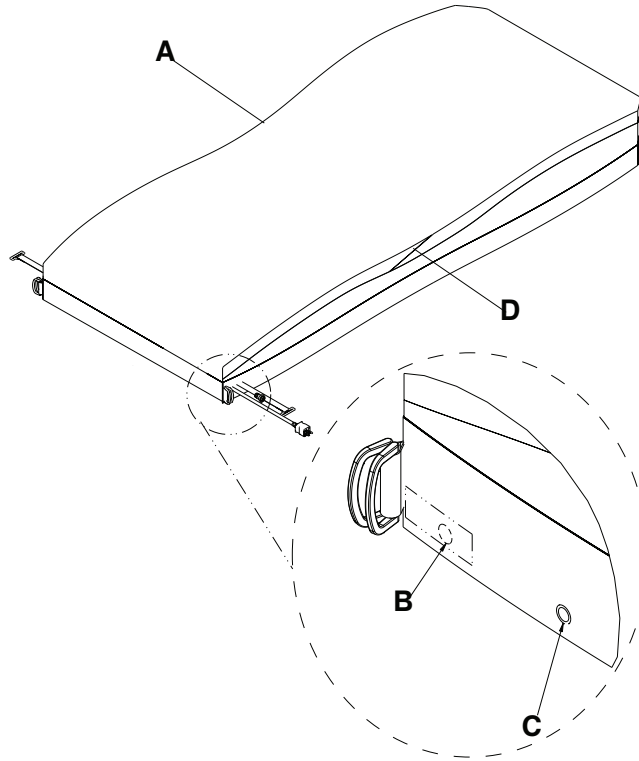

Figure 9 – Top cover
5. Unsnap the two secure snaps (C) at the foot end corners (Figure 9).
6. Unsnap the two foot end corner retainers (B).
8. Using the zipper pull tool, unzip the support surface top cover from the bottom cover (A) and stop unzipping at the middle of the opposite side (D).